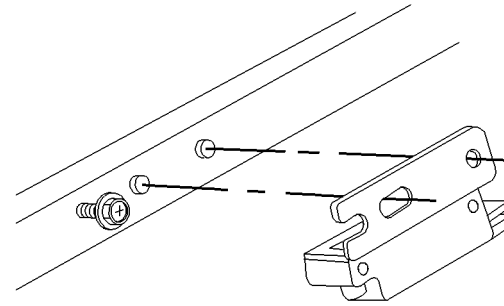

Figure 2 Installing Registration Sensor
1. When installing Registration Sensor align holes with alignment pins and tighten screw (Figure 2).